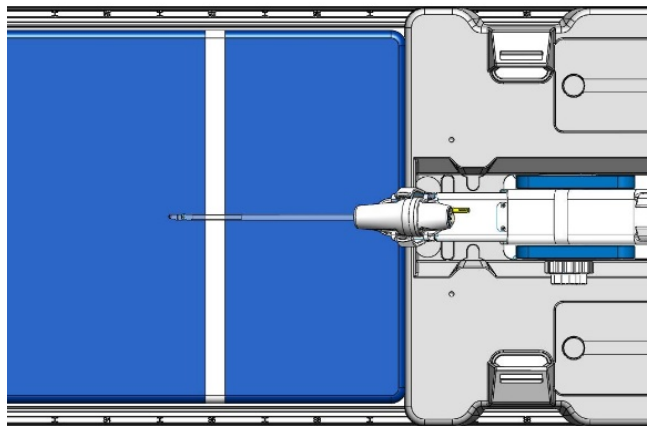

Figure 17: Centering and aligning the coils with the prostate
2. Position the patient on the MRI bed in a head-first supine position so that their sagittal midline is centered from left to right on the MRI table, and their prostate is at the white line of the patient pad (*Figure 17 [Your configuration might not match exactly as shown]*).